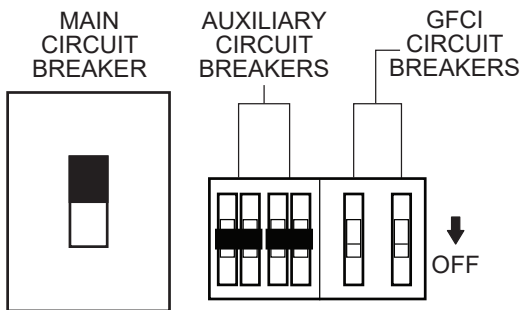

Figure 54. Main, Aux. and GFCI Circuit Breakers (OFF)
1. Place the **MAIN, GFCI and LOAD** circuit breakers as shown in Figure 54 to the **OFF** position.
2. Place the **main, auxiliary, and GFCI circuit breakers** in the **OFF** position as shown in Figure 54.